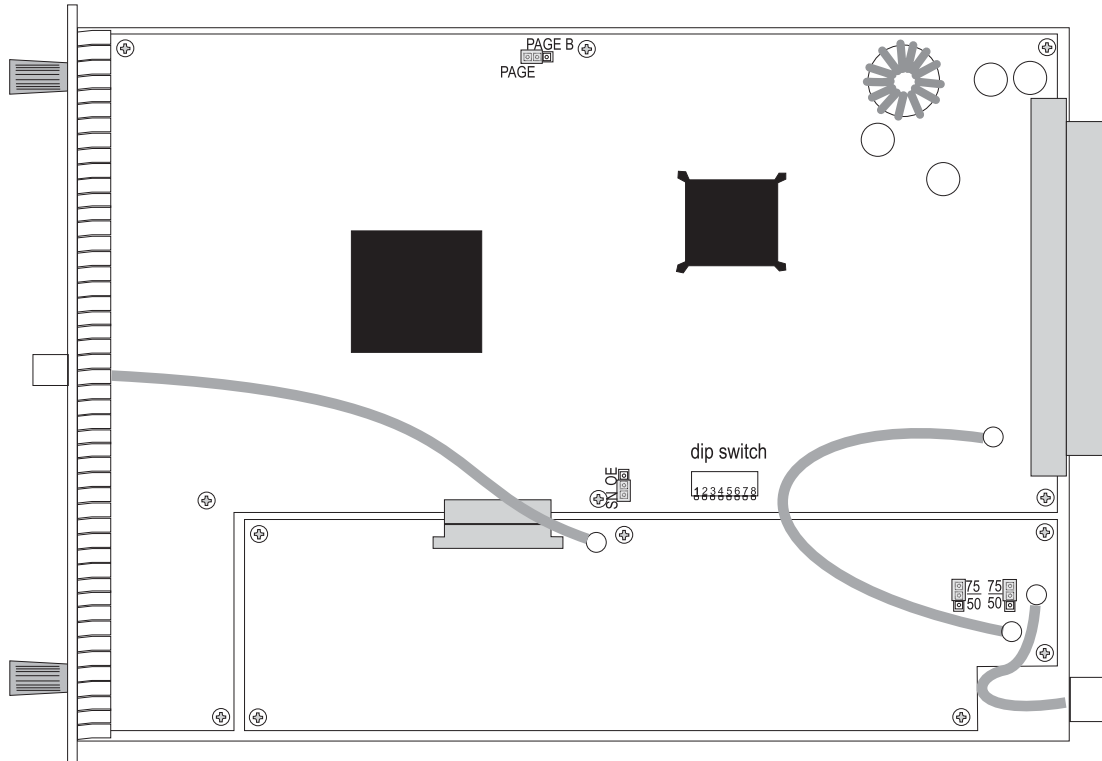

Figure 4. Selectable Option Hardware for the DV6101NCE
1. Board surface jumpers on the DV6101NCE allow the user to choose 50 or 75 ohm input impedance, enable or disable the software ON/OFF control, and choose the firmware “page” in case of a firmware problem. A board surface DIP switch is also provided to enable or disable Automatic Gain Control (AGC), and set the input format for the AGC. Refer to Figure 4, and Tables 3 and 4 for complete information to set each option.